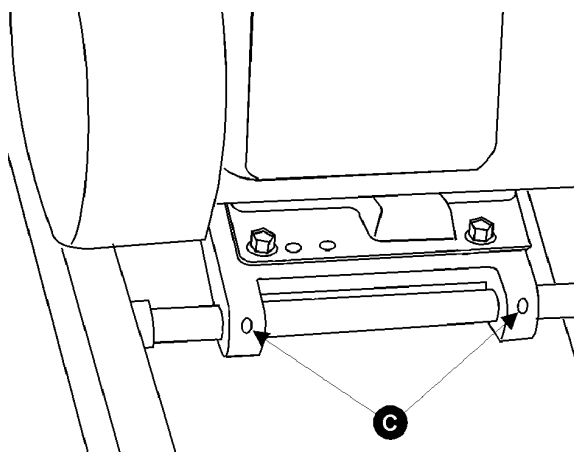

Figure 9
1. Using a straight edge, align the motor pulley (A, Fig. 8 ) and cutterhead pulley (B, Fig. 8). The motor plate can be moved for alignment by loosening the set screws (C, Fig. 9) in the motor plate.